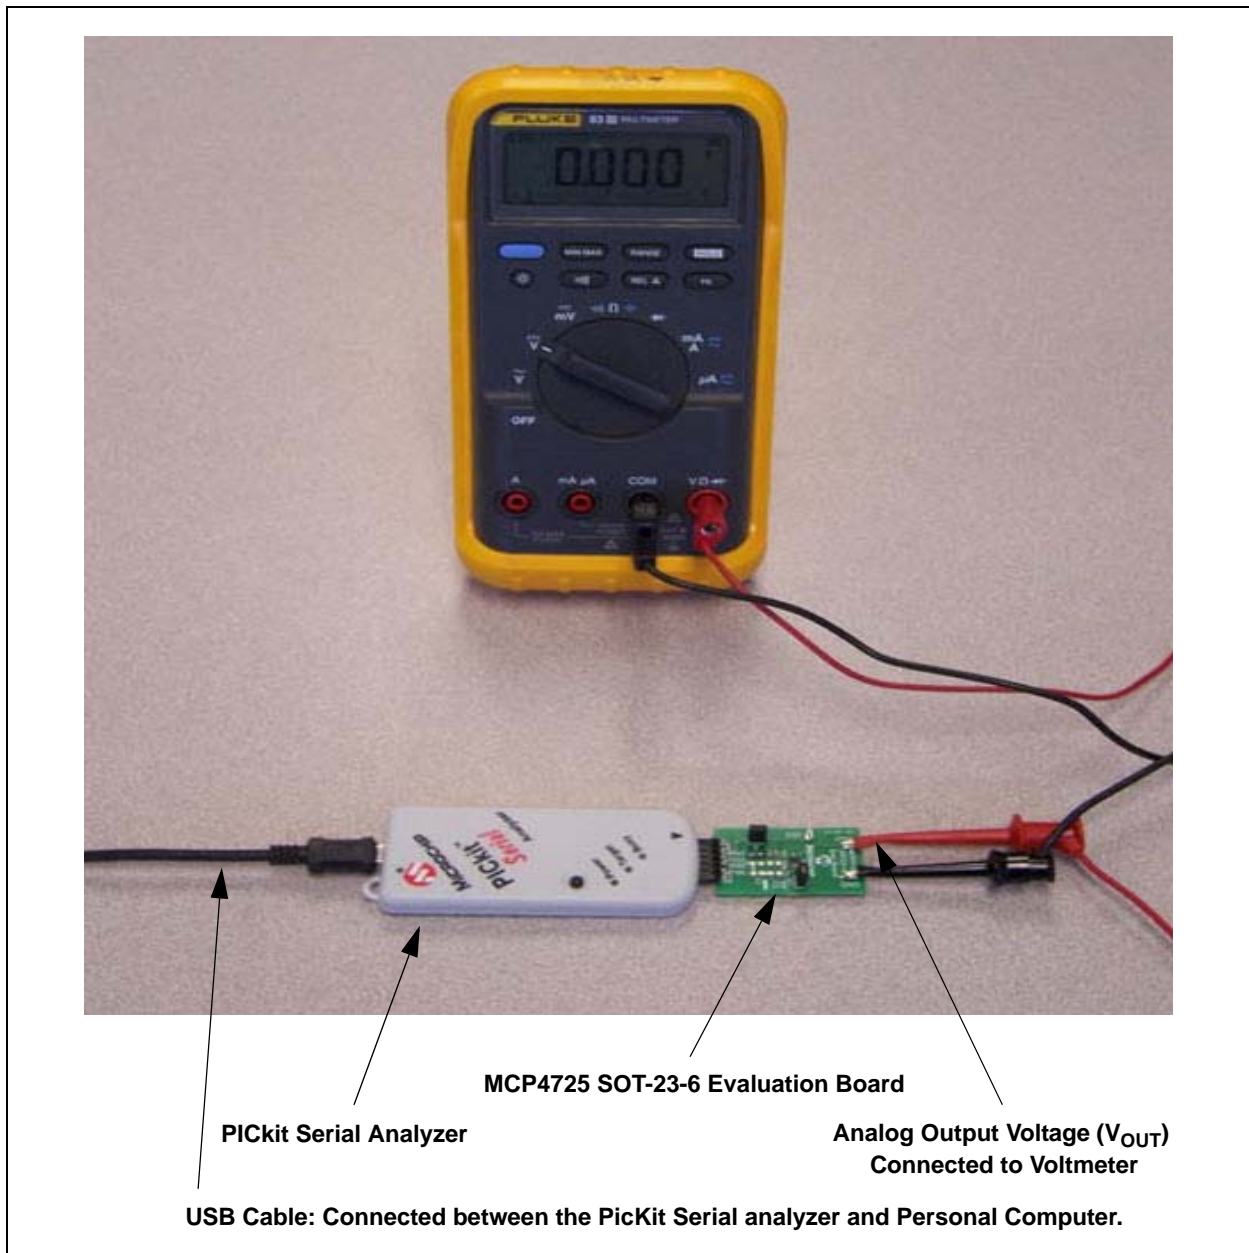

FIGURE 1-2: MCP4725 SOT-23-6 Evaluation Board Test Set Up.
3. Connect a Digital Voltmeter to V_{OUT} and GND terminals on the MCP4725 SOT-23-6 Evaluation Board. Figure 1-2 shows the connection example.